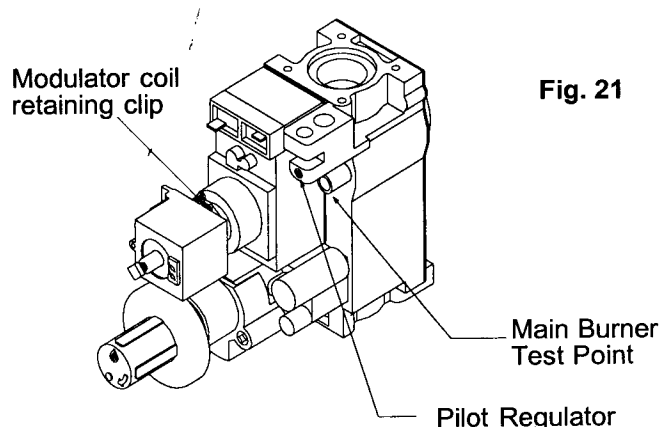

Fig. 21
6.7.4 Locate the main burner pressure test point (Fig. 21) and slacken the screw half a turn in an anti clockwise direction. Attach a suitable pressure gauge. Turn on electricity supply and fully open a domestic hot water tap to operate boiler in dhw mode. Adjust hot water control knob to it's maximum setting.